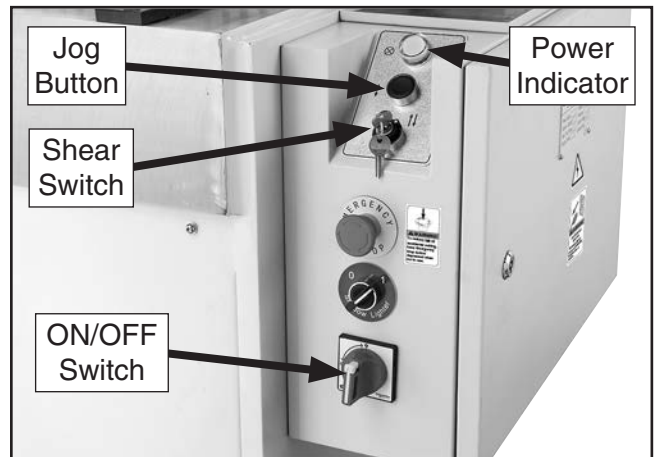

Figure 26. ON/OFF switch, shear switch, jog button, and power indicator.
6. Turn ON/OFF switch ON. Power indicator should illuminate (see **Figure 26**).
7. Turn shear switch left, then press and hold jog button (see **Figure 26**). Motor should engage shear and operate smoothly without vibration or excessive noise as long as button is held *in*. Release jog button to stop machine.